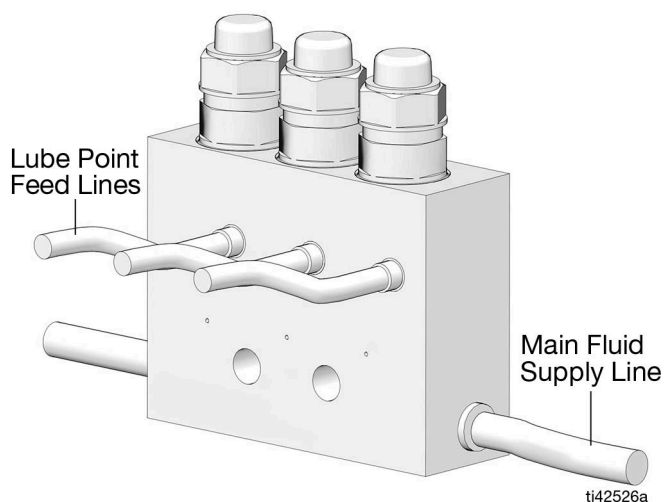

FIG. 3
10. Connect the main fluid supply line to the manifold (FIG. 3).
12. Connect the lube point feed lines to the manifold (FIG. 3).Purge the lube point feed lines of air and contaminants: pump grease through the zerk and cap fittings connected to each injector fluid outlet until clean lubricant is dispensed at the end of each lube point feed line.